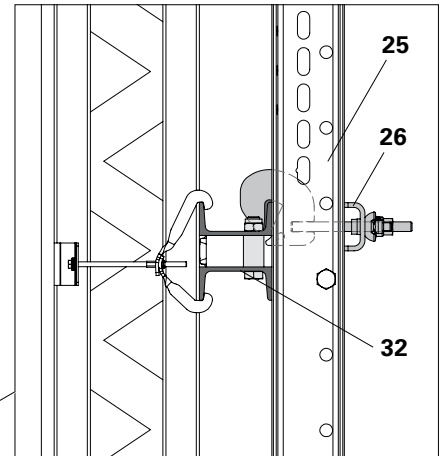
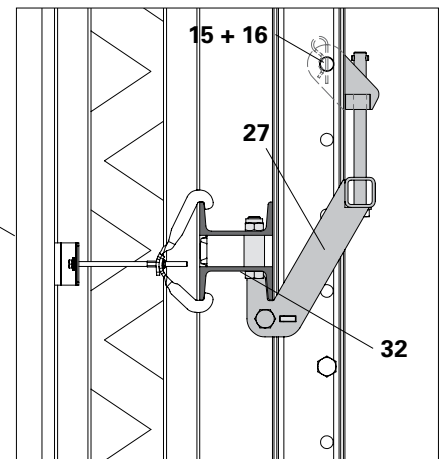

Fig. C1.07a
Fig. C1.07b
2. Position the Strongback SRU U120 (25) on the top waling (32) with Waler Fixation SRU (26). (Fig. C1.07a)
3. Pull the Adjusting Unit SRU external (27) over the bottom end of the Strongback.
4. Mount the top part of the Adjusting Unit on the Strongback using fitting pins \varnothing 21 (15) and cotter pins 4/1 (16).
5. Spindle in the bottom part of the Adjusting Bolt SW 30 until it rests against the waling. (Fig. C1.07b)